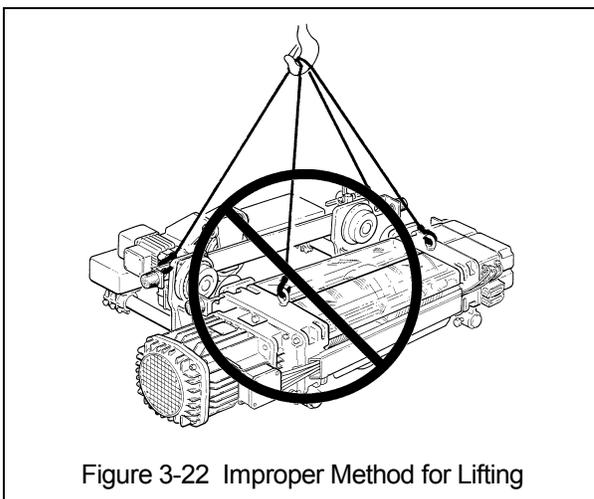

Figure 3-22 Improper Method for Lifting
- 7) **⚠️ WARNING** When installing the trolley hoist on a beam, ALWAYS raise the hoist into position with the trolley and hoist assembled together and securely attached to a pallet. Raise the trolley and hoist with a forklift, lifting platform, or other similar means. NEVER use slings to raise and install the trolley hoist onto the beam (see Figure 3-22).